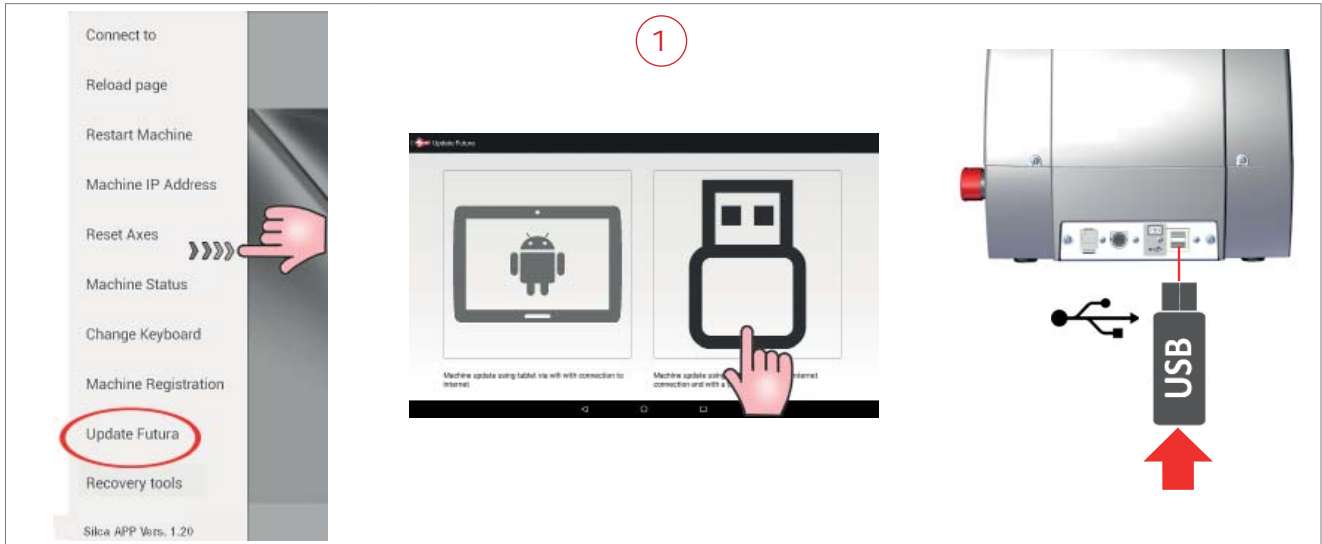

Fig. 21
- 1) Select “Machine update” from the drop-down menu and tap the USB PEN image (Fig. 21). Insert the USB PEN DRIVE into the machine and follow the instructions on the screen.